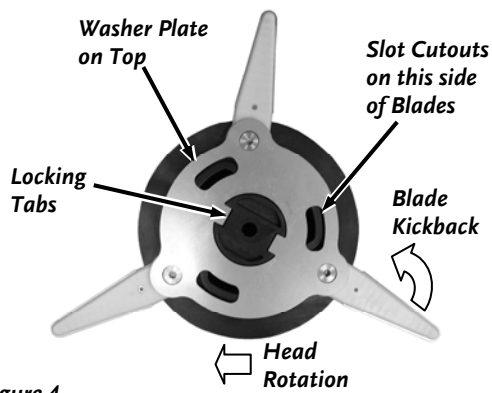

Figure 4
6. Place the Washer Plate over the Blades and onto the Pins in the orientation shown (slots at the left side of Blades) (**Figure 4**).